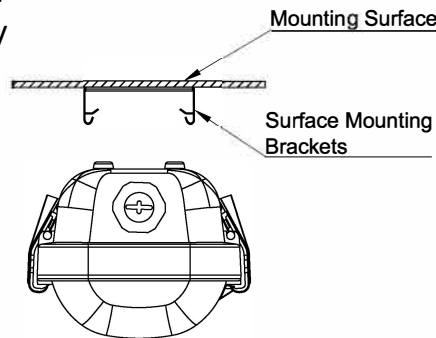

Fig 2
5. Push Housing into Surface Mounting Brackets as shown in Fig. 2. Ensure that the Housing is secure to Surface Mounting Brackets .